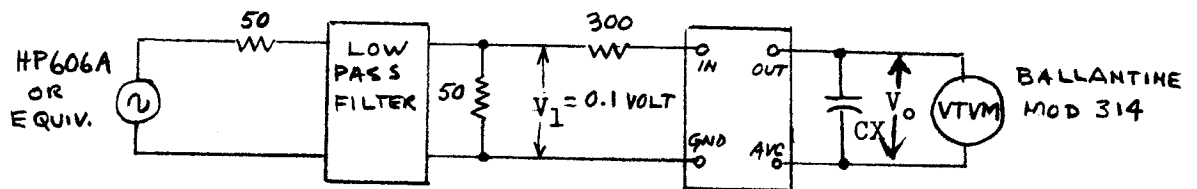

Figure 1.
1. Connect test circuit as shown in Figure 1. Note output loading requirement of Figure 1.